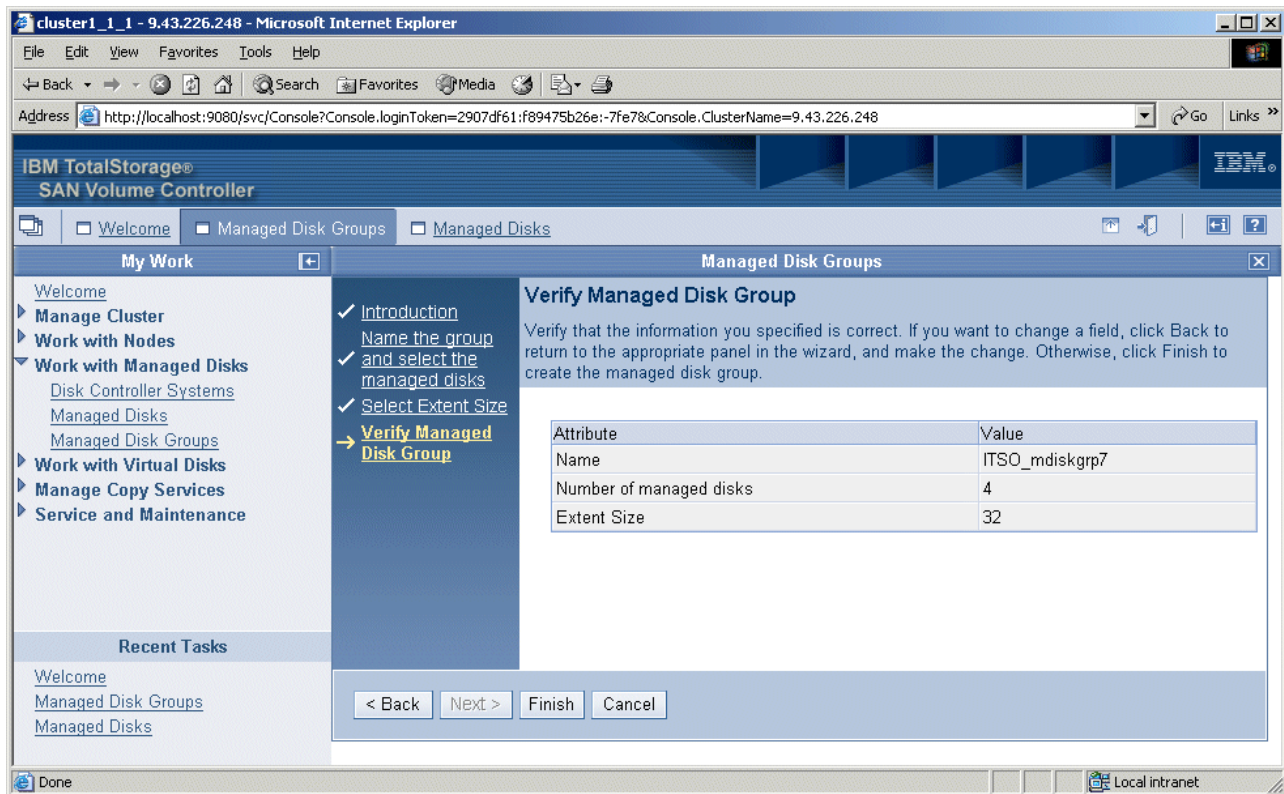

Figure 6-29 Verify MDG wizard
- On the Verify Managed Disk Group panel (Figure 6-29), verify that the information you specified is correct. Then click **Finish**.